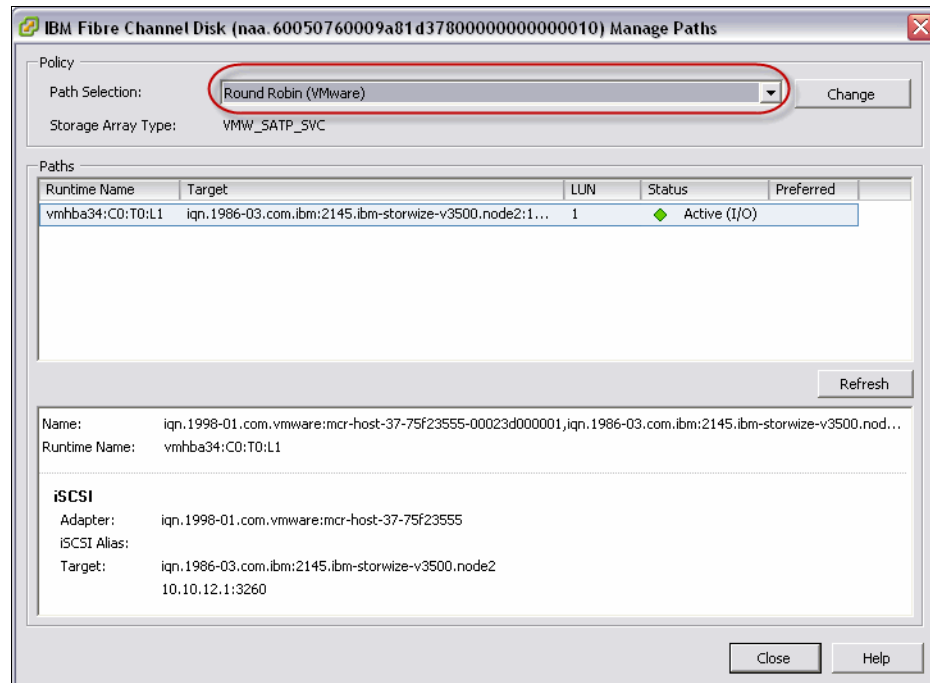

Figure 5-76 Change the multipath policy
16. Click **Manage Paths**, select **Round Robin** as the multipath policy, as shown in Figure 5-76. Click **Change**.